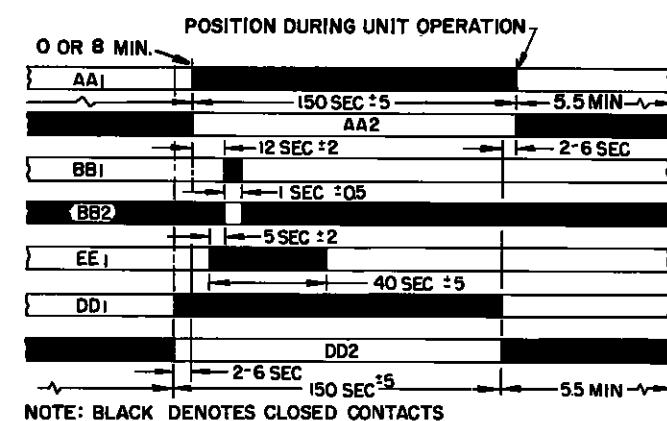

Fig. 10 — Timer Chart
Refer to Fig. 10, Timer Chart: The timer motor (TM) is energized thru the low-pressure switch (LPS) or thru the D-D1 timer contacts, which bypass LPS for 2-1/2 minutes at start-up to avoid nuisance trips on cold starts. Approximately 12 seconds after timer starts, normally open B-B1 contacts close for 1 second. Compressor contactor (C) is energized and the compressor starts. At the same time the solenoid drop relay (SDR) closes; no. 1 liquid line solenoid valve (LLS1) opens and the timer relay (TR) is energized; the normally open TR contacts close to maintain the circuit thru the compressor contactor to keep the compressor running when the B-B1 timer contacts open. Timer contacts E-E1 remain closed for approximately 35 seconds after compressor starts, bypassing the oil pressure switch (OPS). If sufficient oil pressure to close OPS does not come up before the E-E1 contacts open, the compressor stops, the timer cycles off and the control circuit locks out.